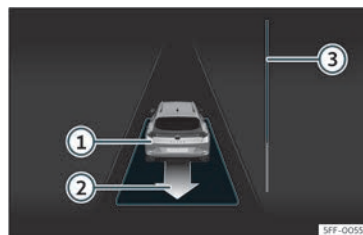

Fig. 193 On the instrument panel display: exit a parallel parking space.
- Reverse until the continuous ParkPilot signal sounds; **OR:** reverse until the instrument panel display shows the forward indication. The progress bar  **Fig. 193**  indicates the distance to cover  page 278.